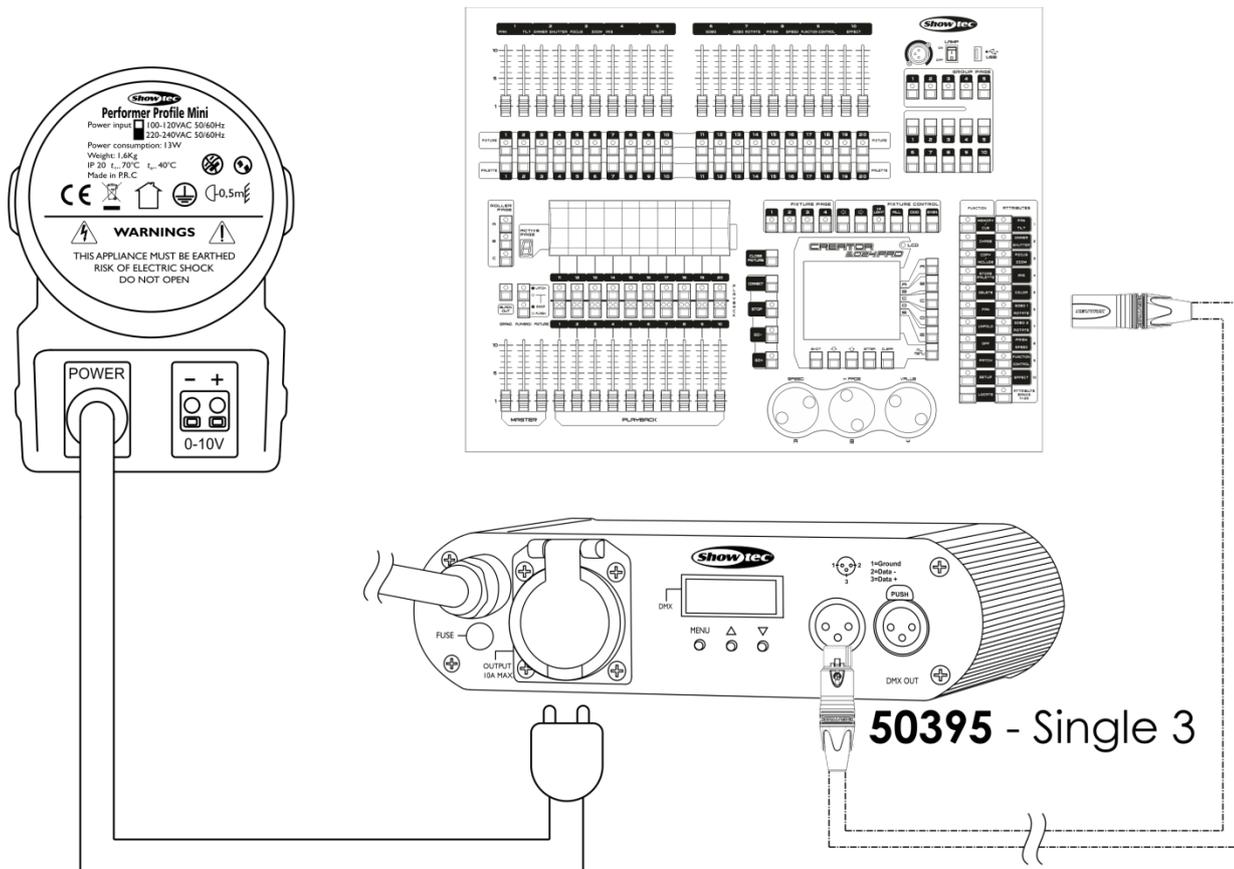

Fig. 09
- 04) Connect your light controller to your (triac) dimmerpack, using a DMX-signal cable (Fig. 09).